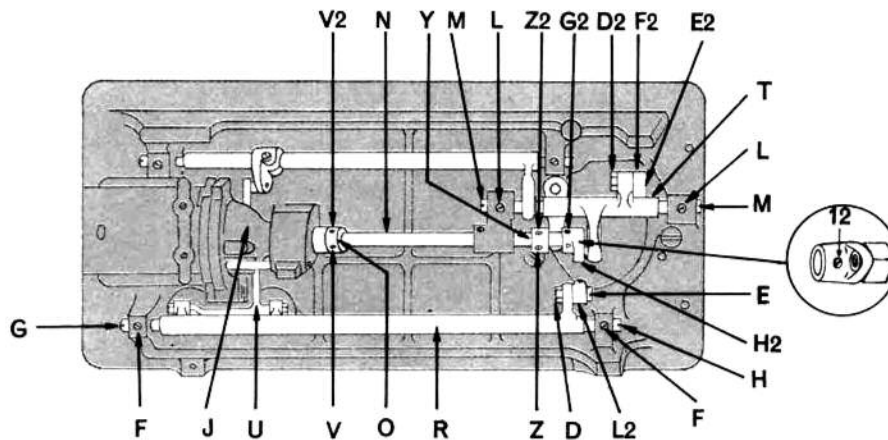

Fig. 26.
REMOVAL: (See Fig. 26)
4. Turn hand wheel over toward you until oscillating shaft crank set screw 12 appears (see inset, Fig. 26).